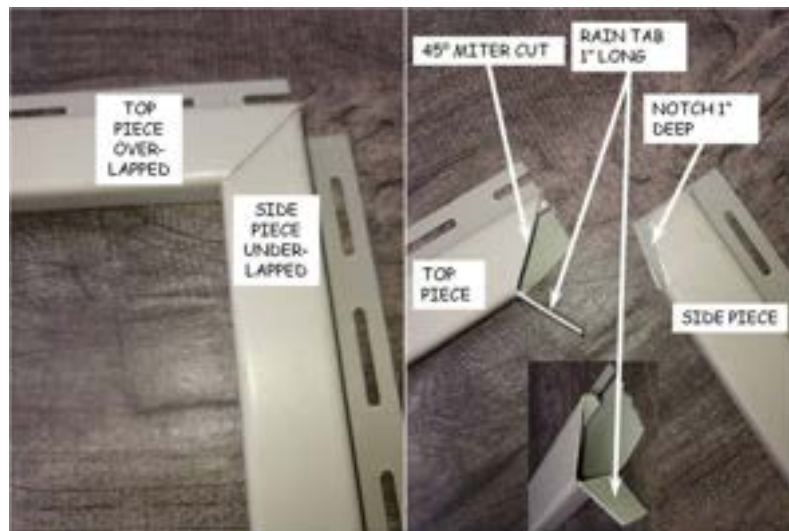

Figure 11-11. J-Channel Upper Corner Detail.
9. For door side pieces, measure from the top of the brickmold to the porch concrete, and add 1". Cut J-channel side pieces to that length. Cut a 1" notch in the top end as shown in Figure 11-11. Install the side pieces with the bottom of the notch flush with the top of the brickmold, nailing snugly every fifth slot.